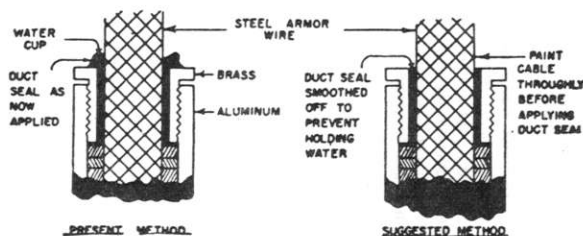

FIGURE 1.—Left, present method; right, suggested method.
- Proper finishing off of the "duct seal." Frequent inspection to prevent formation of the water cup as a result of cable movement is desirable. Figure 1 shows what was found together with a suggested finishing method.